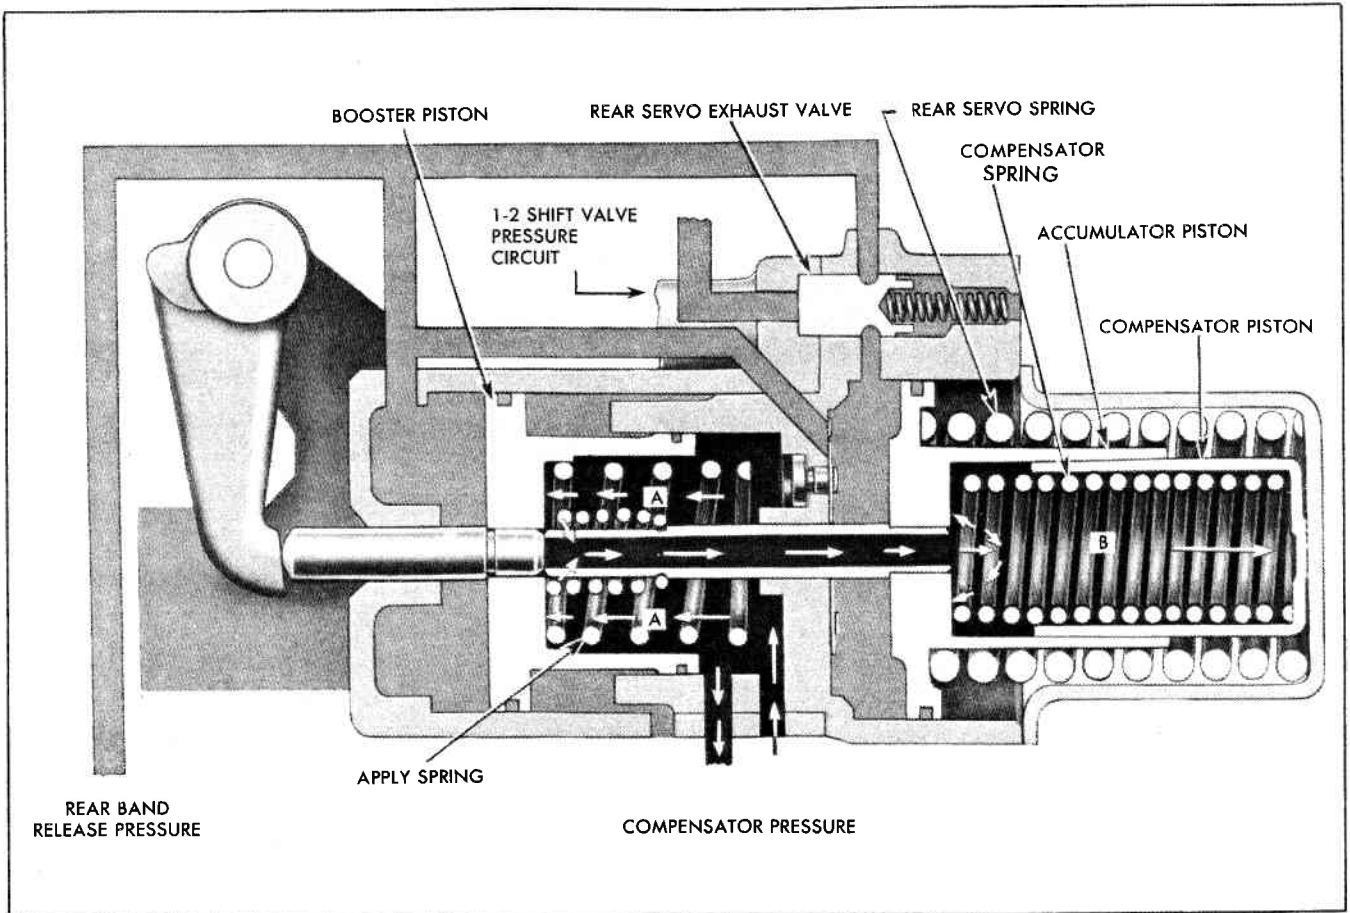
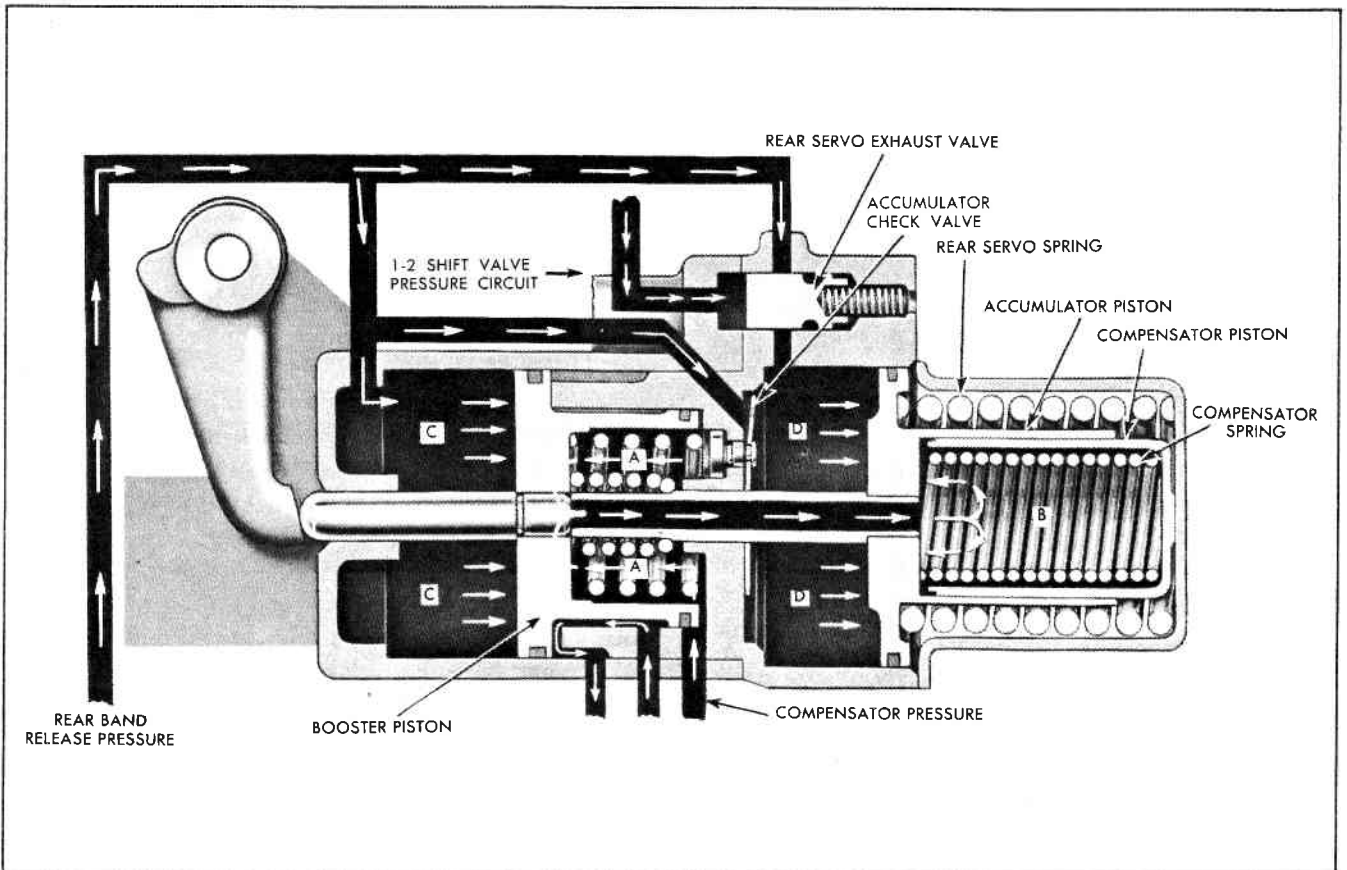

Fig. 35 Rear Servo Applied
Fig. 36 Rear Servo Released
The rear servo is applied by the servo springs which operate on the accumulator piston, the stem of which contacts the booster piston applying the band (Fig. 35).
Compensator pressure is applied at points A and B to assist the servo springs and to prevent the band slipping under rapid acceleration. Compensator pressure is always present when there is any carburetor throttle opening and increases with carburetor throttle opening (Fig. 35). It is also directed to the Front Servo to aid in positioning the 4-3 valve.
Regulated main line pressure is applied at points C and D to release the band. The force applied at these two areas is greater than the force of the servo springs and the compensator pressure and the servo pistons are moved to the released position (Fig. 36).
1. On a closed carburetor throttle downshift when the main line pressure applied at point D is released the check valve then returns to its seat causing the oil under the accumulator piston to pass through the small hole in the check valve and in this way delays application of the band (Fig. 35).
2. On an open carburetor throttle downshift, compensator pressure is effective at points A and B and also on the end of the check valve plunger which is connected to the accumulator check valve. When the pressure applied at point D is released the compensator pressure applied on the check valve plunger holds the check valve off its seat and the oil under the accumulator piston is allowed to exhaust freely for a rapid application of the band (Fig. 36).
The exhaust valve is held open by spring pressure so that when shifting into Drive, release oil from the rear servo can be rapidly exhausted (Fig. 35). When the 1-2 shift valve opens to shift the transmission into second speed, oil from the 1-2 shift valve closes the rear servo exhaust valve to make it inoperative in second, third and fourth speeds (Fig. 36).